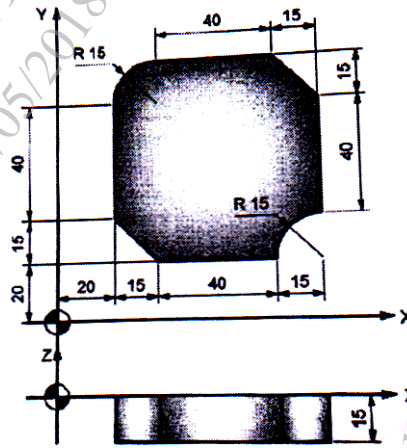

Fig.5 Q. No. 6 (b)
b) Develop a part program for the part shown in Fig. 5. The part is 1.5 mm thick use end mill cutter diameter 10 mm cutting speed 700RPM and feed 100 mm/min [12]